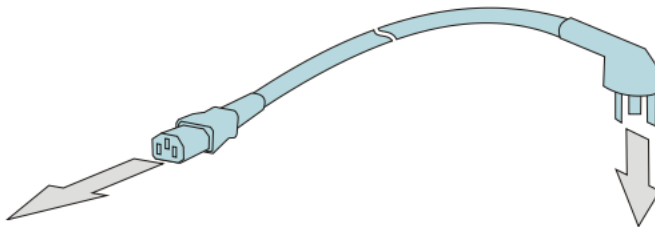

Figure 15: Connect the power supply
- ☐ Connect the power supply cable, refer to Figure 15 below.